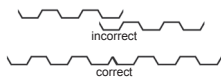
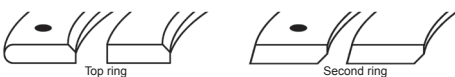

Figure 1
Figure 2
10. Install the rings on the piston, starting with the oil control ring (only in case of 4-stroke). Please check for the proper installation of the oil ring expander. See figure 1 for clarification. Then, if applicable, install the second compression ring and finally the top ring. **PLEASE NOTE: rings have normally a top side and a bottom side**. The top side has a marking, this marking should be facing up. Please check figure 2.